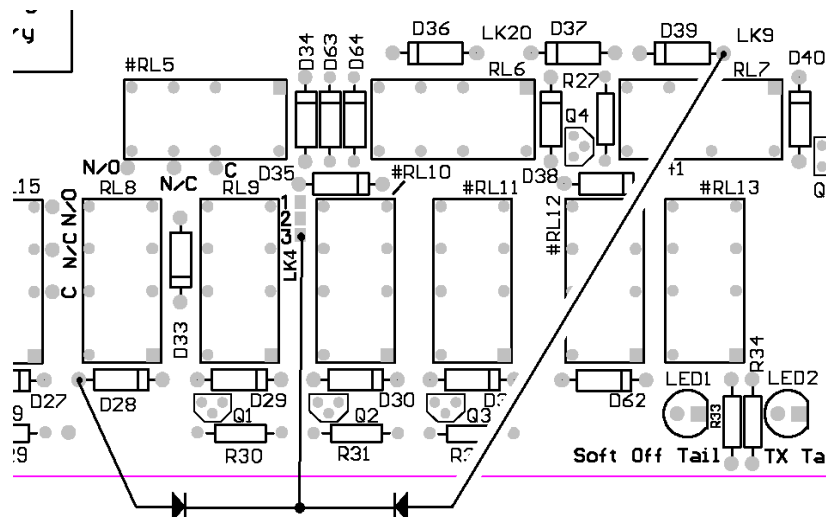

Fig 6
1. Add a diode to the top of the A800-SIM PCB, cathode to link LK4 pad 3 and the anode to D28 anode. Refer to Fig. 6. Adding this diode makes the splitting relay #RL10 control the relay RL8. When #RL10 is inactive (system joined) it pulls relay RL8 on permanently via the diode. While relay RL8 is on the SIM TX Tail circuits are disconnected from the PTT Outputs.
2. Add a diode to the top of the A800-SIM PCB, cathode to link LK4 pad 3 and anode to D39 anode. Refer to Fig. 6. Adding this diode makes the splitting relay #RL10 control the voting pulse timer reset line. When #RL10 is inactive (system joined) its normally closed contact pulls the voting pulse timer reset line permanently low via the diode. This prevents the vote pulse timer from generating voting pulses.